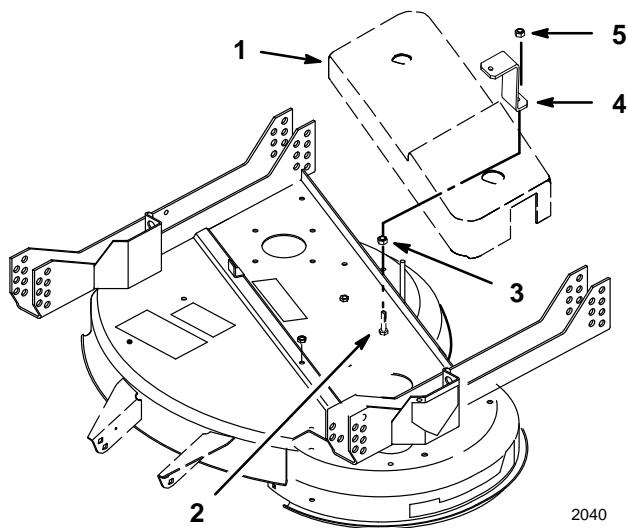

Figure 3
1. Remove existing bolt securing kicker at center rear of mower. Replace with longer 5/16-18 x 1-1/4 (32 mm) bolt from kit. Insert from inside mower and secure with 5/16 nut (Fig. 3).
2. Position hold-down over bolt at the rear and to the right of the step on belt guard (Fig. 3). Secure hold-down with 5/16 thin lock nut (Fig. 3).